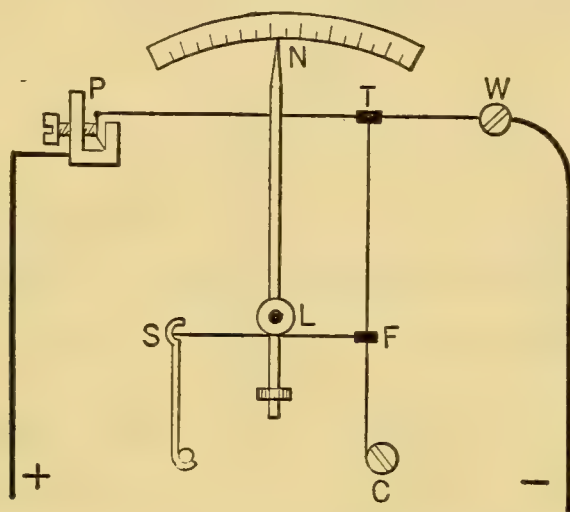

FIGURE 387. — HOT WIRE METER.
slackening of the wire permits a pointer, (N), to move across a scale and indicate the size of the current through the wire (Figure 387).